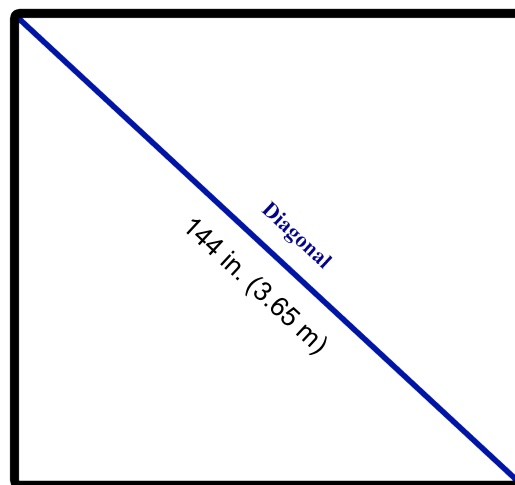

Figure 23
- ♦ The foundation must be leveled with a maximum tolerance of 1 in (2.54 cm) over a 144 in (3.65 m) diagonal section. (Figure 23). Refer to *Frame and foot print section* for information on the minimum base size.